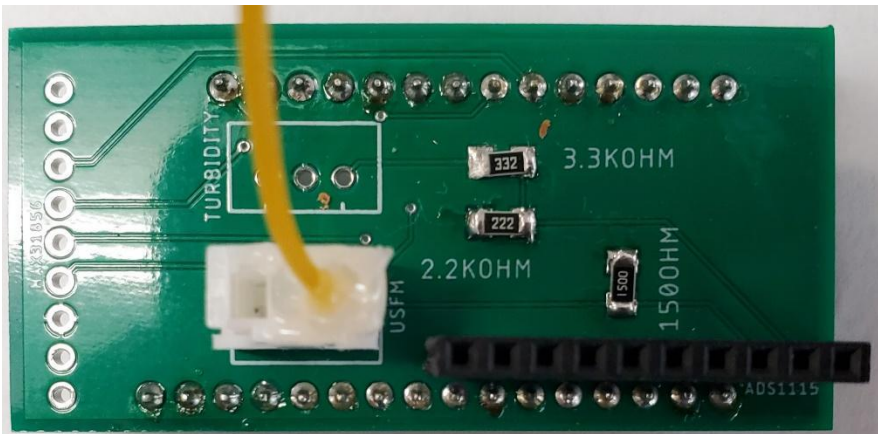

Figure 10: Assembled breakout board. Note 3.3 kΩ and 2.2 kΩ resistors are only used for implementations with the turbidity sensor.
3. Use either a reflow oven or heat gun (~350°C) to heat the solder paste enough to connect the resistor to the PCB (Figure 10). Paste should go from looking grainy to shiny.
4. Insert the short side of the 14 and 16 long male headers from the bottom of the board into the holes labeled for Hypnos Control in Figure 9, and solder them into place from the top (Figure 10).
5. Insert the pins for the female header into the board from the top side in the holes labeled ADS1115, flip over the board, and solder into place (Figure 10).
6. Insert the pins for the JST socket into the through holes labeled USFM from the top of the board, flip over the board, and solder into place (Figure 10). For consistency, align the side with the cutouts toward the center as indicated by the two lines inside the rectangle for the JST socket on the PCB silkscreen.
7. For the JST plug with cable, plug into the JST socket to determine which wire will be closest to the USFM label. Remove the socket and remove with tweezers or cut flush all wires except the one that will be closest to the USFM label (Figure 10). Plug back into the socket and hot glue wire into place.